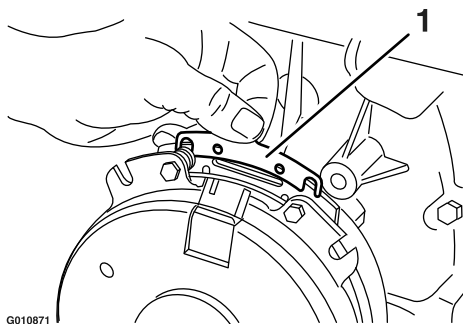

**Figure 72**
- A. Loosen both brake-mounting bolts 1/2 to 1 full turn as shown in Figure 72.